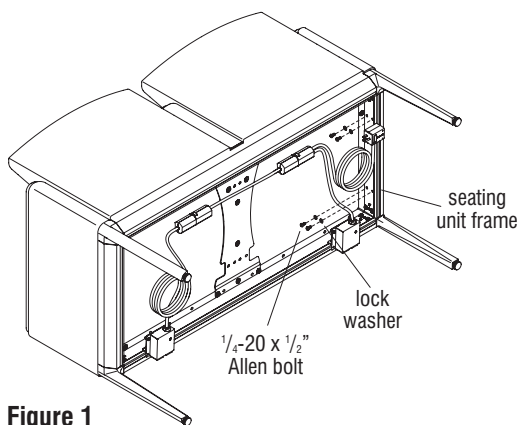

Figure 1
backrest, with the assistance of a second person, move the unit away from the structure, then carefully lay the guest unit onto its front, on a clean, protective surface (Figure 1).
2. With the assistance of a second person, carefully lay the guest unit onto its front, on a clean, protective surface (Figure 1).